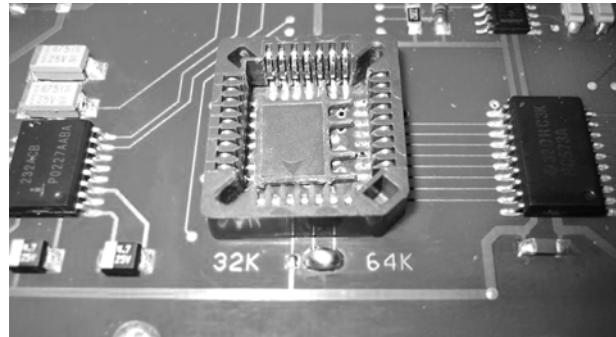

Figure 129: IC holder after removal of the EPROM
4. Use the IC pliers to pull the EPROM with the old software out of the IC holder (see Figure 129).